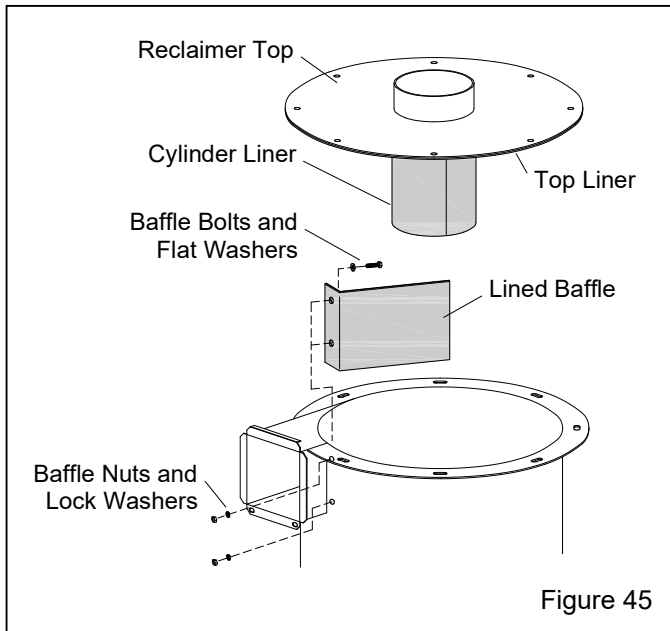

Figure 45
7.12.7 Remove the bolts and nuts, securing the reclaimer top, and then remove the top (and top liner and cylinder liner if the reclaimer is currently lined), as shown in Figure 45.
7.12.10 Remove the nuts and washers located along the right side of the inlet and remove the lined baffle through the top of the reclaimer, as shown in Figure 45.